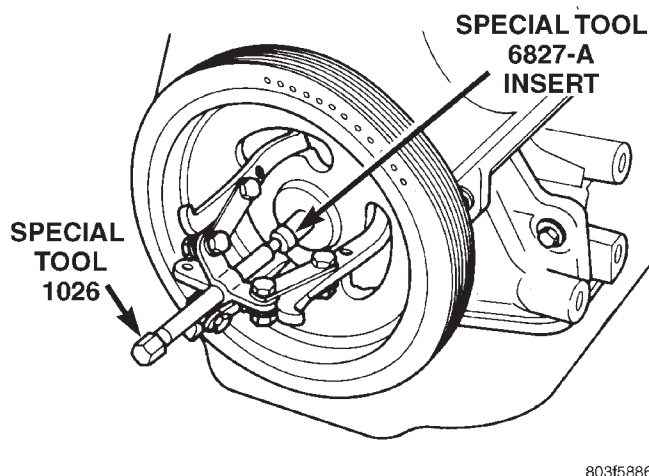
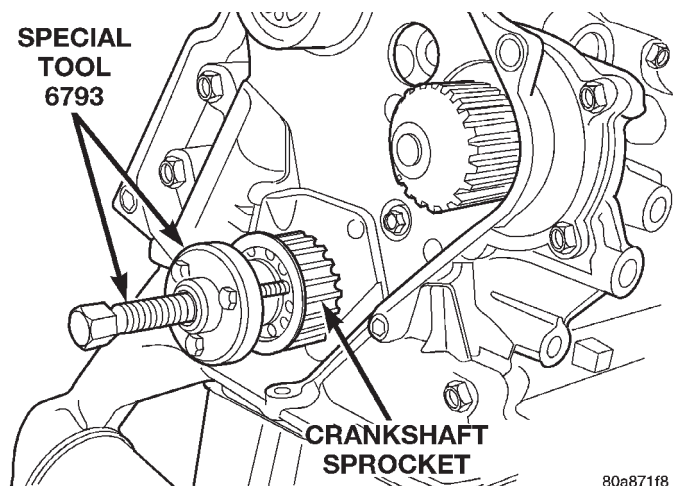

Fig. 64 Crankshaft Damper—Removal
Fig. 65 Crankshaft Sprocket—Removal
(1) Using large side of Special Tool 1026 and Insert 6827-A, remove crankshaft damper (Fig. 64).
(2) Remove outer timing belt cover and timing belt. Refer to Timing Belt System outlined in this section.
(3) Remove crankshaft sprocket using Special Tool 6793 and insert C-4685-C2 (Fig. 65).